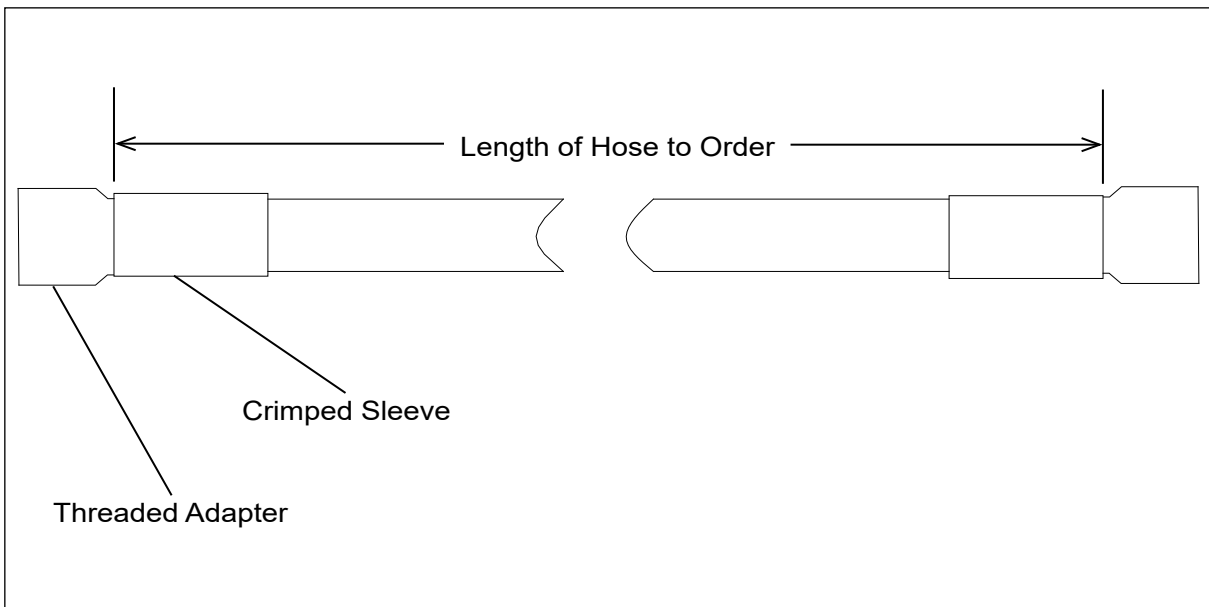

Figure 6 — Measuring the Hose Length
- While the hose(s) is still attached to the components, measure the hose from fitting to fitting (refer to Figure 6). This may require more than one person for an accurate measurement.